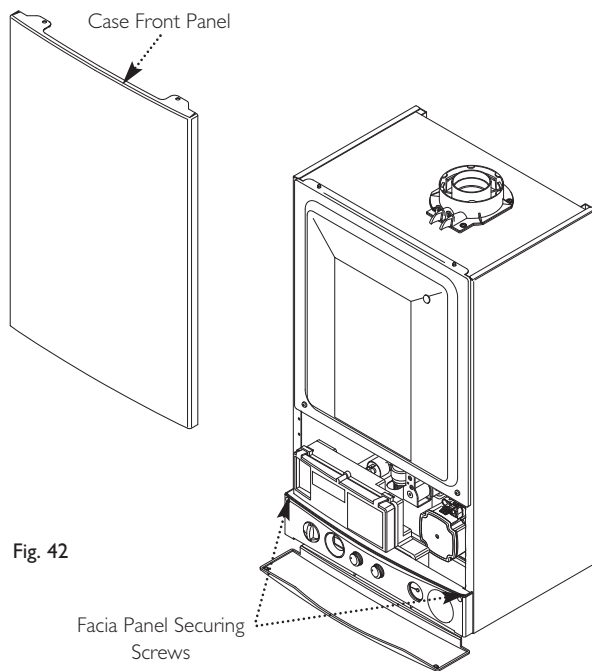

Fig. 42
3. Slacken the screws securing the fascia panel. Lift the outercase panel so that its securing tabs are clear of the fascia. Remove the panel, allowing the fascia to hinge down (Fig. 42).